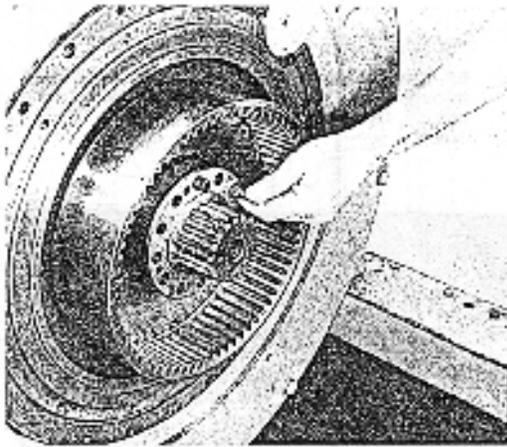

Figure 8. Installing Locking Ring on clutch Driving Drum.
15. Apply locking ring (see fig. 8) on clutch driving drum. Secure by torquing socket head cap screws\* alternately as follows: 8 lb-ft the first time, 15 lb-ft the second time and 21 lb-ft the third time around. Torque all cap screws again at 21 lb-ft. for evenness. **DON'T NOT OVER TORQUE!**